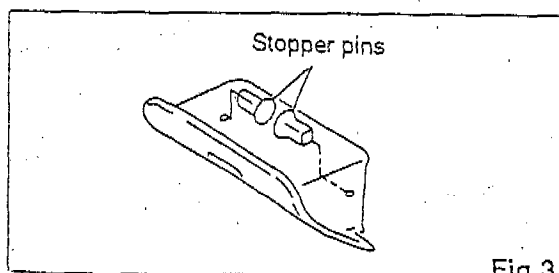
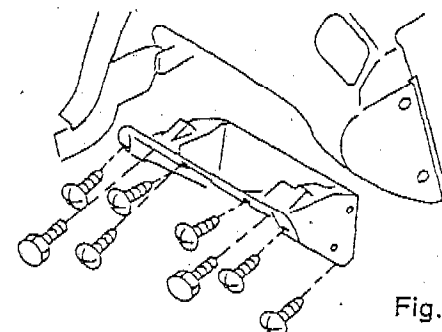

Fig.3
Fig.4
- (1) Turn ignition switch OFF.
- (2) Disconnect the ground cable from the battery and wait for at least 20 seconds before starting work.
- (3) Pull out two stopper pins (Fig.3) and lower the glove box (Fig.4).